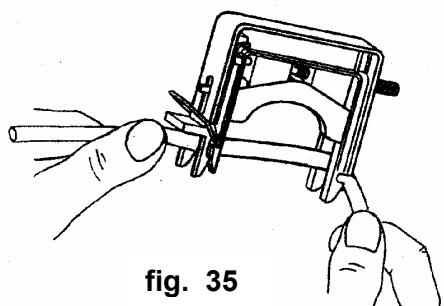

fig. 35
- Load approved 3-stopper-hose in cassette (refer to fig. 35). Slip stopper on both ends of the cassette to the hose holder (refer to fig. 36).